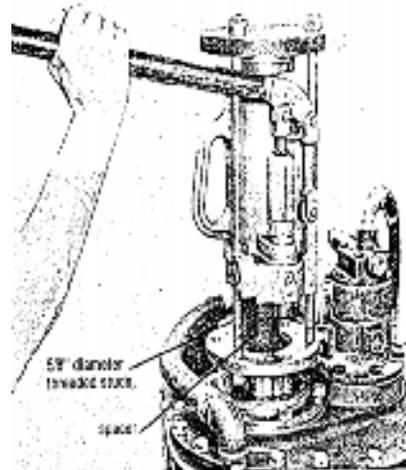

Figure 30. Pulling Out Coupling from Shaft Using Jack and Special Tool no. 1-90025-0003.
5. Remove output retainer plate from output coupling. With suitable puller remove output coupling from output shaft. See fig. 30.
2. With engine end of transmission flat on table, pull output coupling from output shaft using suitable puller see fig.30.